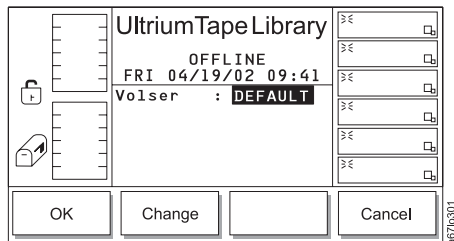

Figure 4-205. Media Dialog
3. Press the button below the **MEDIA** softkey. The Media Dialog displays the Volser field (see Figure 4-205). Available settings are: